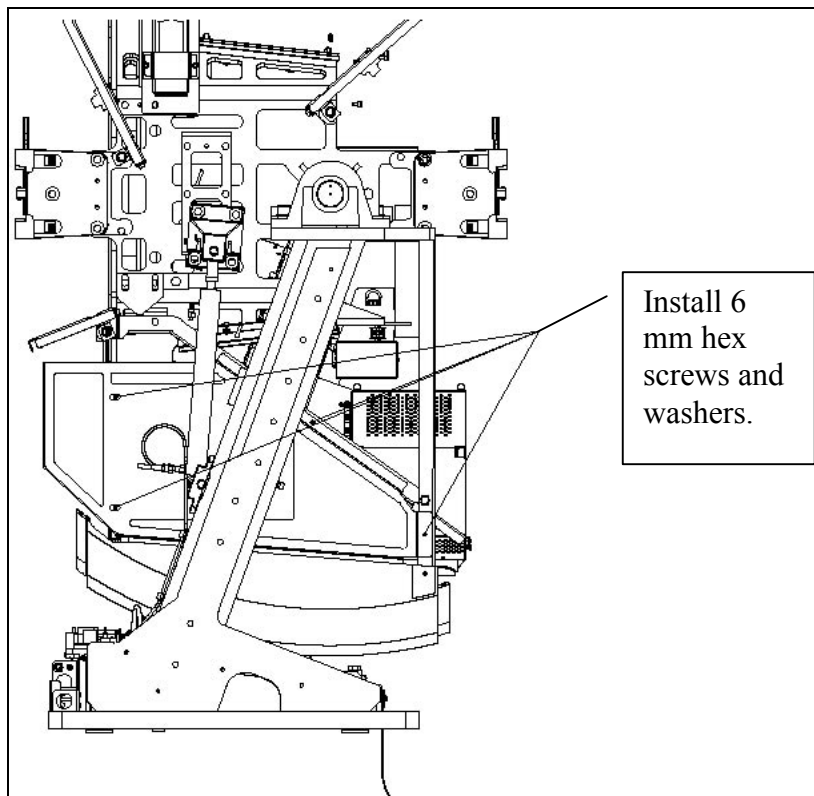

Figure 3. Left Side Panel Installation
3. As shown in Figure 3, install Left Side Panel (2294827) using four screws (46-328417P11), four lock washers (46-328432P3), and four washers (46-328431P2) supplied in FMI kit.